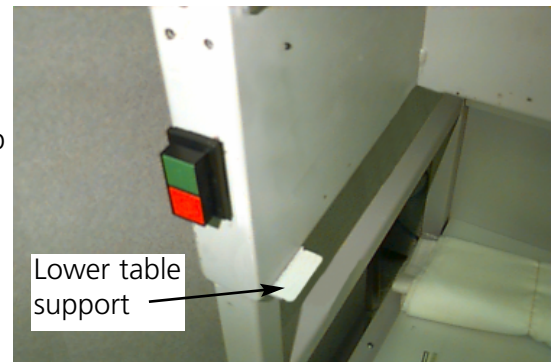

Figure 2-9
1. Lower the sewing table by lifting the front of the table and pulling it towards you. Place the table top on the lower table supports (Figure 2-9) and push the table top towards the rear of the machine. The table top will snap into place.